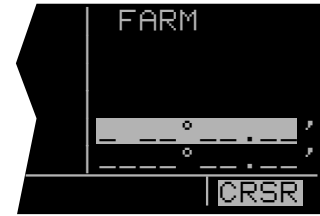
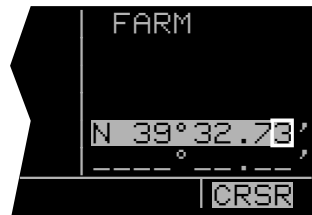
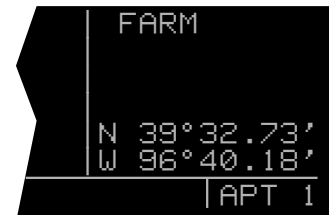

Figure 5-56
Figure 5-57
Figure 5-58
8. If instead, you wish to create a waypoint at a position that you specify, position the cursor over **USER POS?** and press **ENT**. A page with the identifier at the top and dashes at the bottom will now be displayed (figure 5-56). The cursor will be over the dashed latitude field. The latitude and longitude of the waypoint must be entered. To do so, turn the right inner knob to display an **N** (for North) or an **S** (for South). Next, select the latitude in degrees, minutes, and hundredths of a minute by using the right outer knob to position the cursor and the right inner knob to select the desired numbers (figure 5-57). When the complete latitude has been selected, press **ENT**. The cursor will jump down to the longitude field. Turn the right inner knob to select **W** (for West) or **E** (for East). Use the right outer and inner knobs to select the longitude. Press **ENT** to approve the waypoint position (figure 5-58).